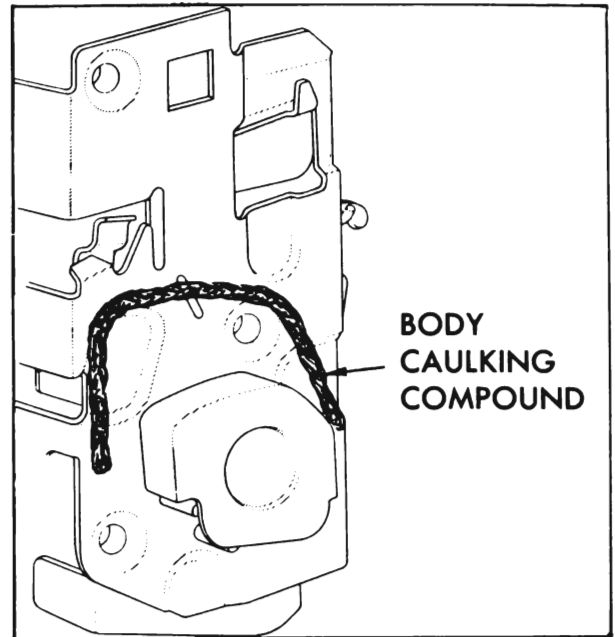

Figure 13-43—Front Door Lock Sealing
8. To install door lock, reverse removal procedure. Prior to installation of lock, apply a ribbon of medium bodied sealer (approximately $\frac{1}{4}$ " in diameter) across face of lock frame, as indicated in Figure 13-43.
4. To install front door lock, reverse removal procedure. Prior to installation of front door lock apply a ribbon of medium-bodied sealer (approximately $\frac{1}{4}$ " in diameter) across face of lock frame, as indicated in Figure 13-43.
Prior to installation of front door lock on all styles except 43 and 63, apply a ribbon of medium-bodied sealer (approximately $\frac{1}{4}$ inch in diameter) across face of lock frame, as indicated in Figure 13-43.